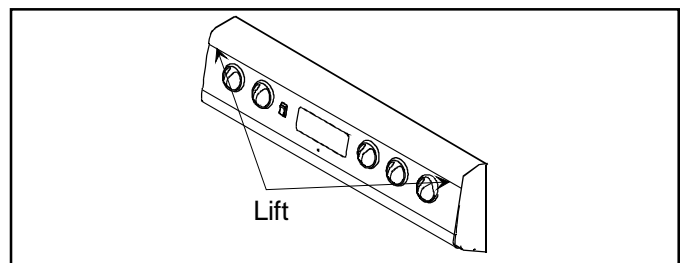

Figure 21
1. Lift up on front edge of backguard top trim. Flip top trim towards rear of backguard. (Figure 21)